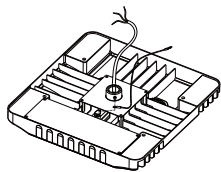

Figure 1
1. Fix one side of the accessory safety rope on the back of the fixture(Figure 1).